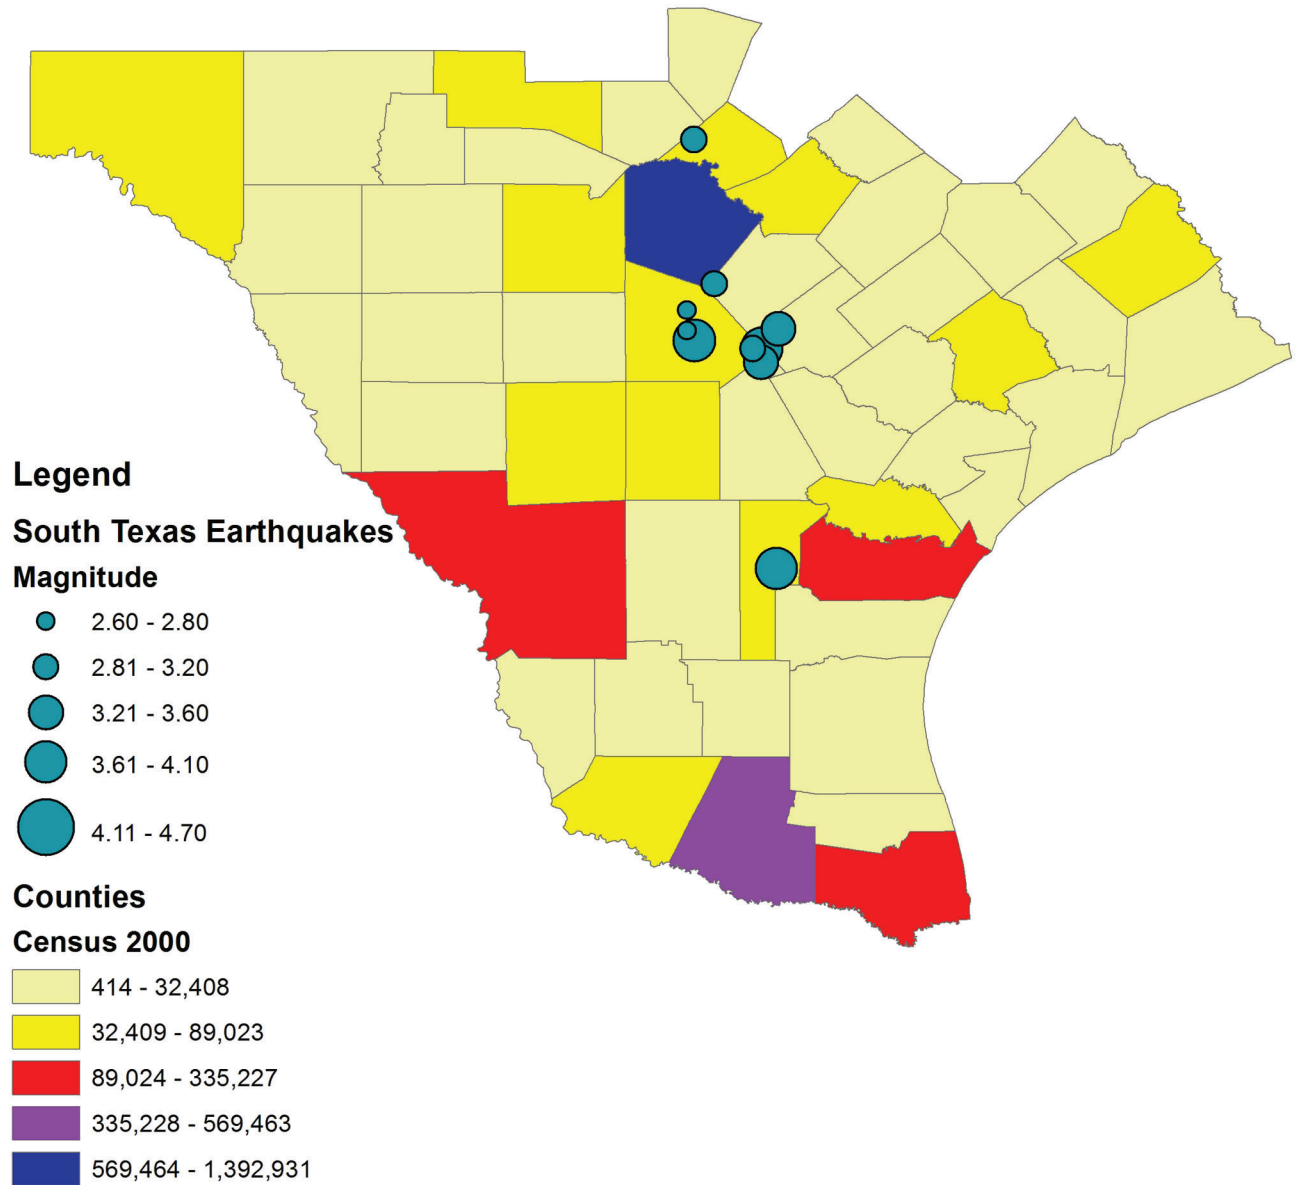

Figure 9. South Texas earthquake epicenters from 1978 to 2004.
18. Examine the two earthquake maps of South Texas on the previous page (Figure 9). Using these maps comment on the possibility that there is a connection between the recent increase in fracking and seismic activity in the region.